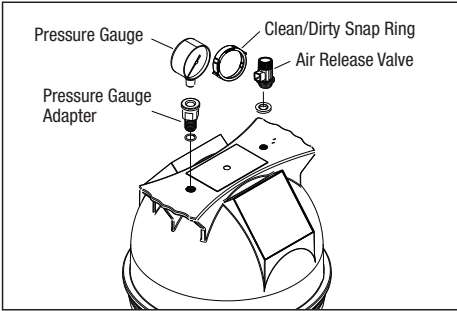

Figure 2. Pressure Gauge and Pressure Release Assembly
4. Install the pressure gauge and adapter assembly to the threaded hole marked “Pressure Gauge” at the top of the filter. See Fig. 2.
5. Install the air release valve into the threaded opening marked “Air Release” at the top of the filter. See Fig. 2.